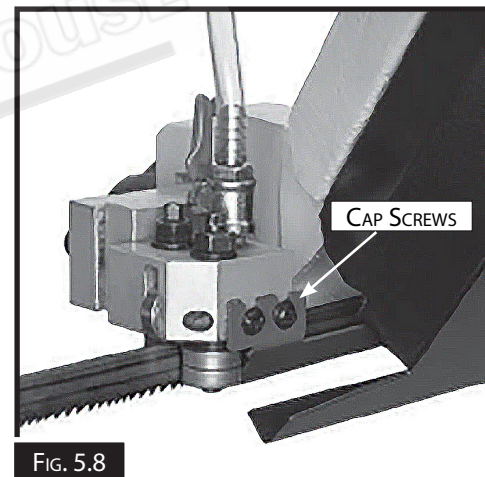

FIG. 5.8
NOTE: To access the cap screws on the other blade guide you will need to remove the two Phillips head screws and move the limit switch and its bracket out of the way. (Fig.5.8)
2. Release the lock nut on the Feed Stop bolt.(Fig.5.8)